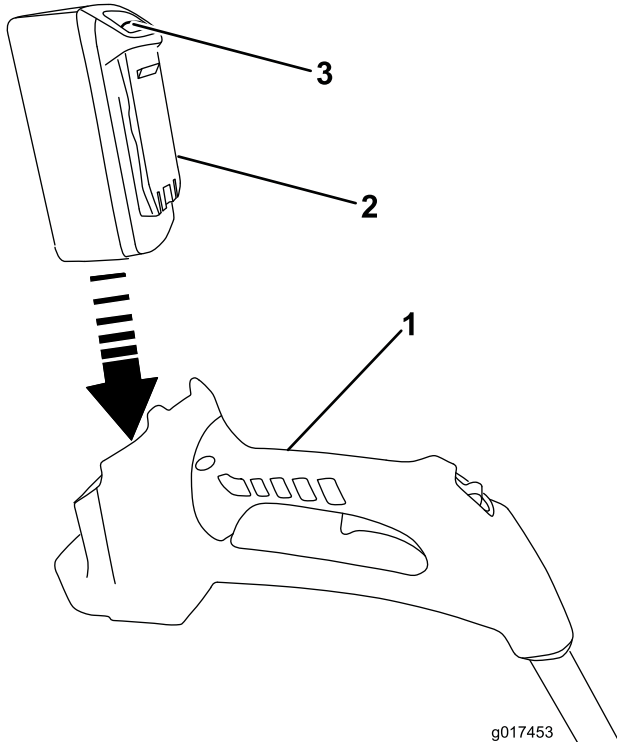

Figure 10
1. Align the tongue of the battery pack with the cavity in the handle housing (Figure 10).
2. Grasp the trigger handle (Figure 10).